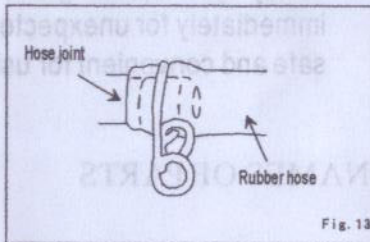

Fig. 13
7. Push the rubber hose onto the hose joint as far as it will go. Do not use a vinyl plastic hose, as this can be dangerous. secure the hose with both sides of hose clamp. (Fig. 13) see to it that the rubber hose does not touch a part of the gas stove nor lies underneath it.